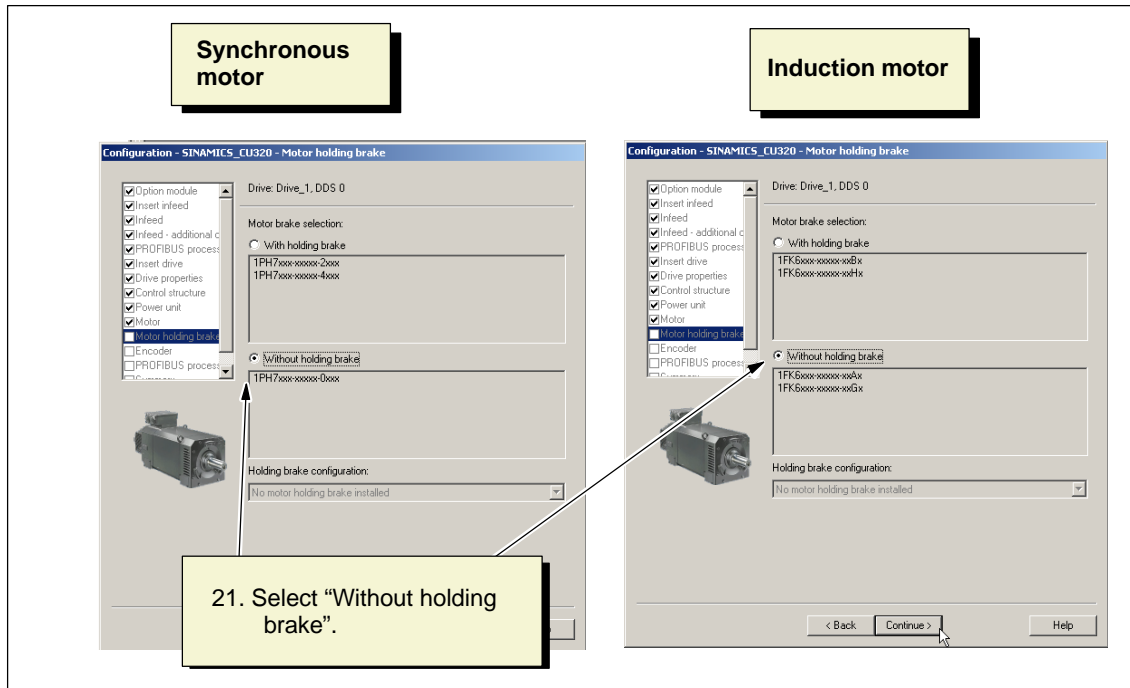

Fig. 3-26 Motor configuration
20. Click **Continue >** to select the motor holding brake (see Fig. 3-26).